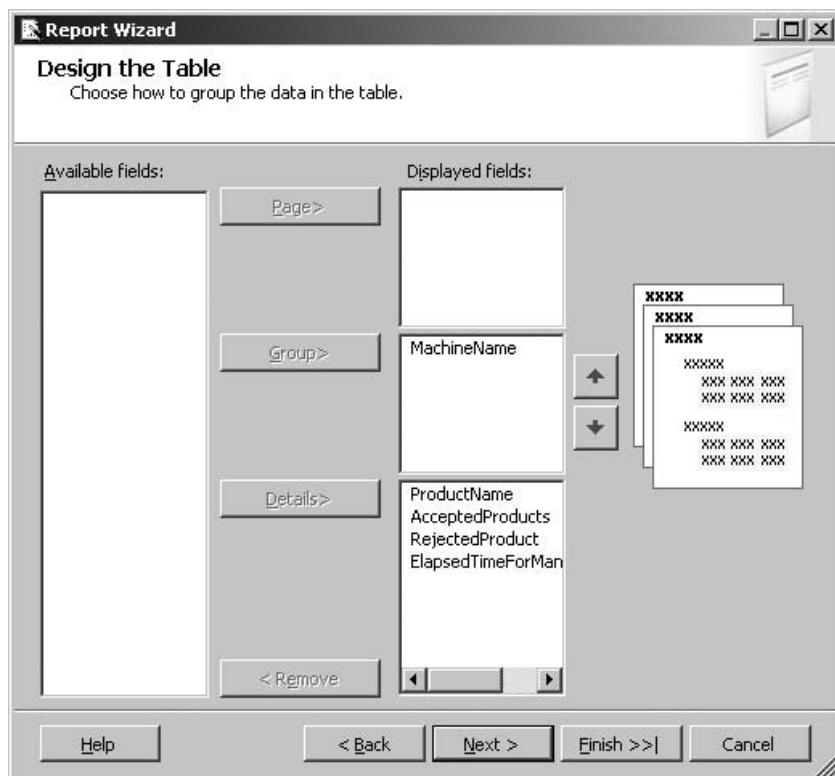

Figure 16-7 The Design the Table page of the Report Wizard
23. Click Details four times to place the remaining fields in the Details list. The wizard page appears as shown in Figure 16-7.